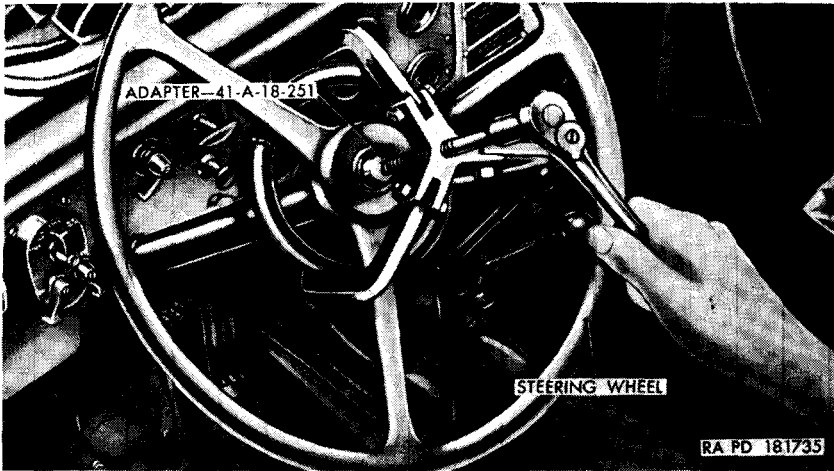

Figure 113. Removing steering wheel.
- (1) Lift the hood and disconnect the two horn cables by separating the connectors on cables No. 25 (fig. 80). Remove cables from the clips. Unscrew the nut securing the steering wheel and remove the nut and horn button. Remove the steering wheel, using a puller 41-P-2954 and adapter 41-A-18-251 (fig. 113).